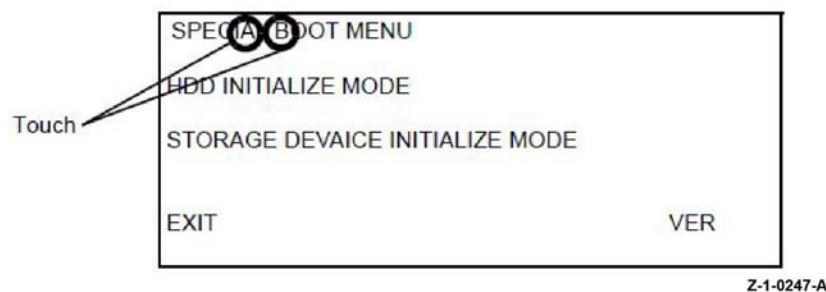

Figure 1 Accessing special boot mode
1. Enter special boot mode: with the device in the power off state, refer to GP 7, simultaneously press then hold down the **Home** and **Power** buttons until the device powers on and the 1st level SPECIAL BOOT MENU appears, Table 1 and Figure 1.
2. To enter the 2nd level menu, simultaneously touch the letters **A** in SPECIAL, **B** in BOOT and the **Home** button. Do not hold any of the three locations, just touch/press then release simultaneously, Figure 1.